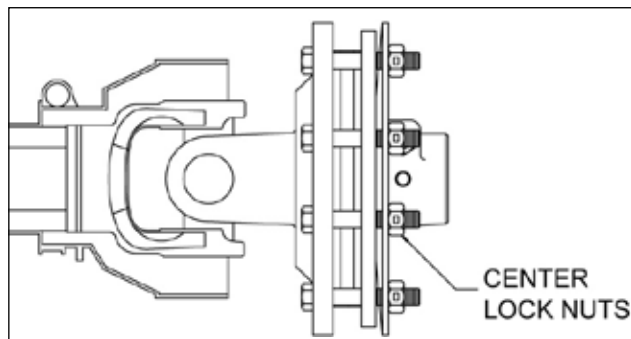

Figure 41, Torque limiter center locknuts
1. Loosen the center locknuts on the torque limiter (Figure 41) so that the pressure is relieved from the pressure plates.